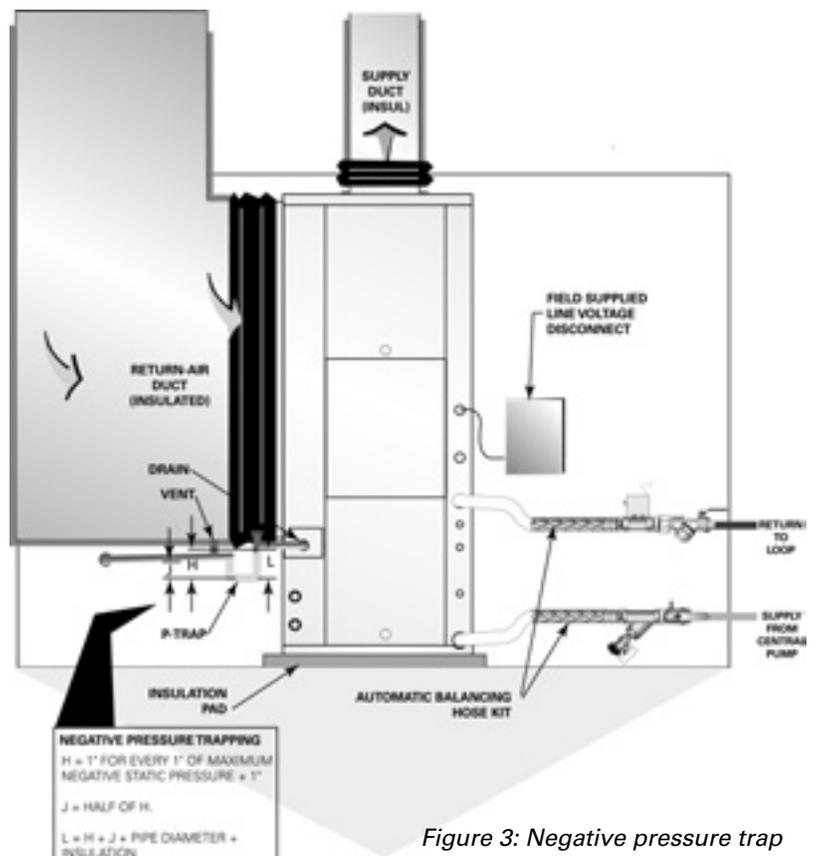

Figure 3: Negative pressure trap
*In a properly trapping system, when condensate forms during normal operation, the water level in the trap rises until there is a constant flow (Figure 3). It is imperative to maintain water in the trap and not allow the trap to dry out during heating season. Keeping the trap primed at all times will enable the water to flow properly.*